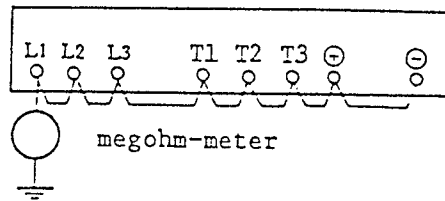

Figure 7-1 Terminal Connection for Insulation Resistance and Withstand Voltage Tests
To conduct insulation resistance and withstand voltage tests, connect the terminals as shown in Figure 7-1 and perform measurements under the following conditions:
- Measure the resistance between a terminal and the ground with a 500 VDC megohm-meter as shown in Figure 7-1. Confirm that the inverter withstands 5 M $\Omega$  or more.
- Apply 2000 VAC, between a terminal and ground for one minute as shown in Figure 7-1. Confirm that there is no abnormality.
- Do not perform insulation resistance and withstand voltage tests for the terminals not shown in Figure 7-1 such as printed circuit board.